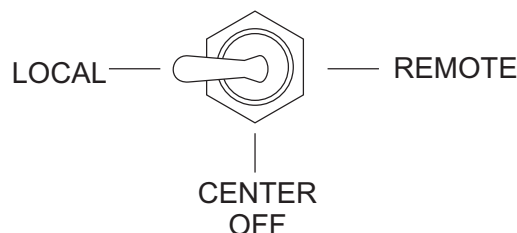

Figure 27. Pumping Control Switch (Local)
1. Place the **pumping control switch** in the **LOCAL** position (Figure 27) for normal pumping operation.
9. Place the volume control switch (Figure 27) in the increase volume position (right) to increase the volume to 25-30 strokes per minute. Slowly discharge the concrete from the ready-mix truck into the hopper and completely fill it. Keep the pump running continuously until concrete is discharging at the end of the delivery system. If the pump is stopped during this procedure, a blockage may occur.